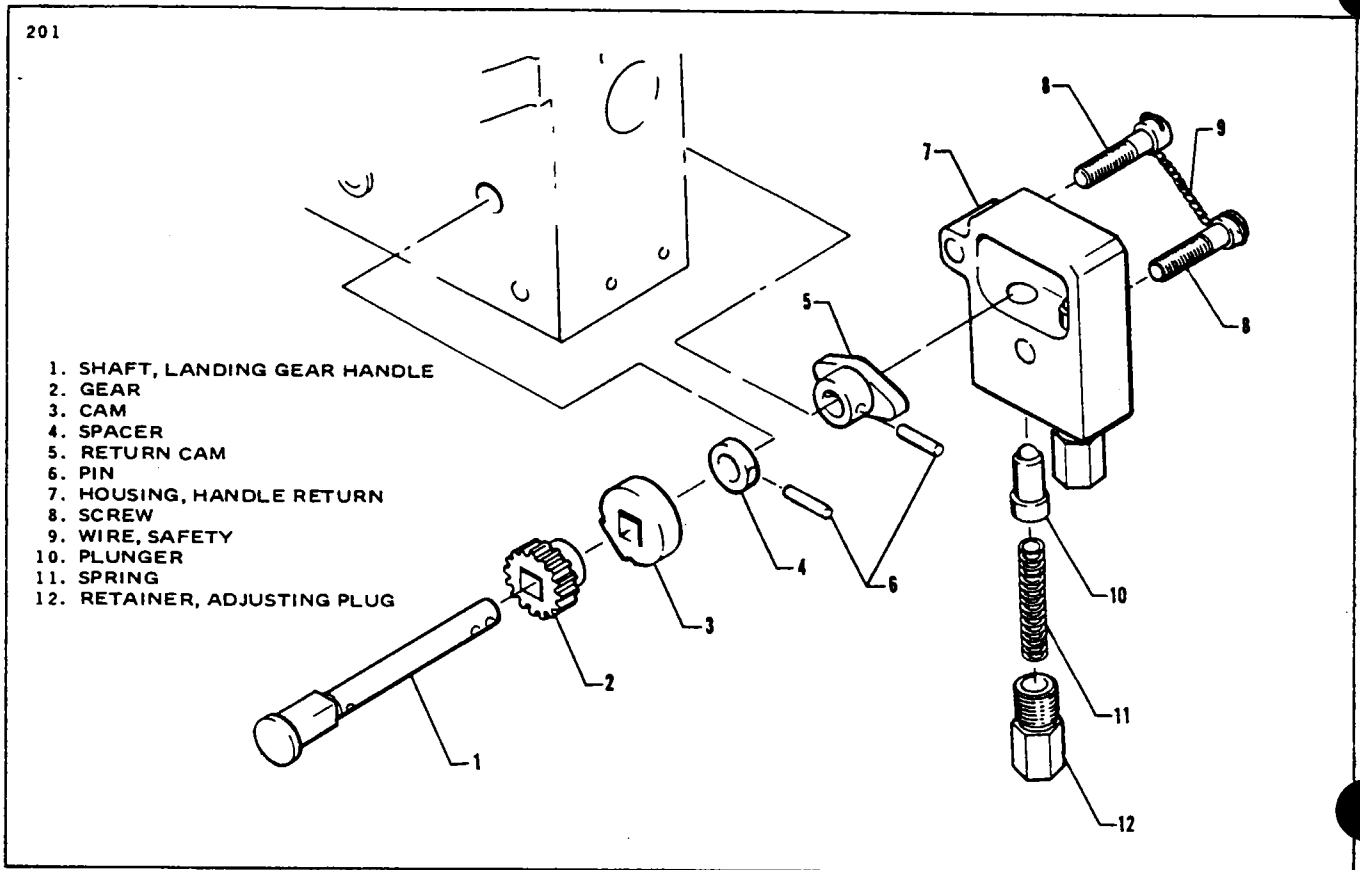

Figure 6-13. Power Pack Handle Release (Ozone)
6-31. DISASSEMBLY OF LANDING GEAR HANDLE AND HANDLE-RELEASE MECHANISM. (Refer to Figure 6-13.)
6-42. ASSEMBLY OF POWER PACK HANDLE-RELEASE MECHANISM. (Refer to Figure 6-13.)
a. If the landing gear handle shaft (1) or gear (2) was removed, the parts must be indexed and assembled as shown in Figure 6-13.
b. Lubricate the shaft (1), install the cam (3) and spacer (4) on the shaft and insert the shaft into the Power Pack.
c. Install the return cam (5) with the roll pin (6). Both sides of the cam surfaces are identical. Check the landing gear handle shaft for freedom of movement in the Power Pack. Check for slight endplay in the shaft. If shaft binds, remove the cam and lap inside boss of cam to obtain slight endplay in the shaft with the cam installed.